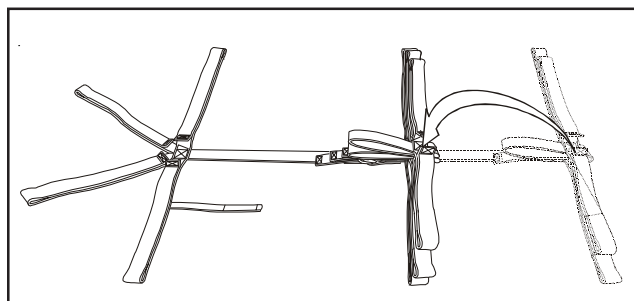

Figure 10 - Making the Second Fold
4. Stack the ankle and thigh straps on the yellow pelvic strap (Figure 10).